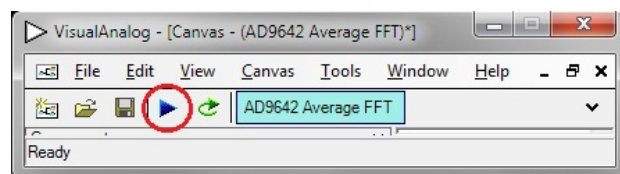

Figure 12. Run Button (Encircled in Red) in VisualAnalog Toolbar, Collapsed Display
- Click the **Run** button in the **VisualAnalog** toolbar (see Figure 12).
If the FFT window remains blank after **Run** (see Figure 12) is clicked, do the following: